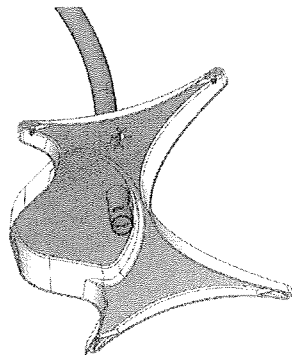

Figure 4: Base Cover to Post Assembly
5. Take the base cover and slide it onto the non-flared end of the post. This can be seen in Figure 4.